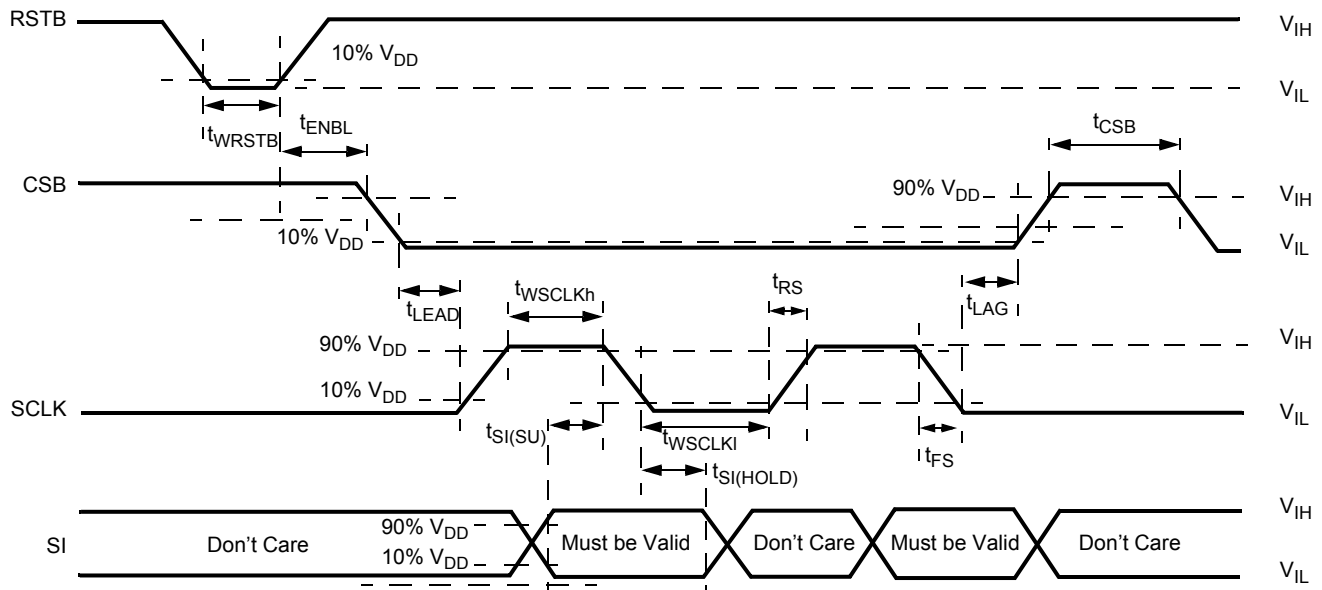
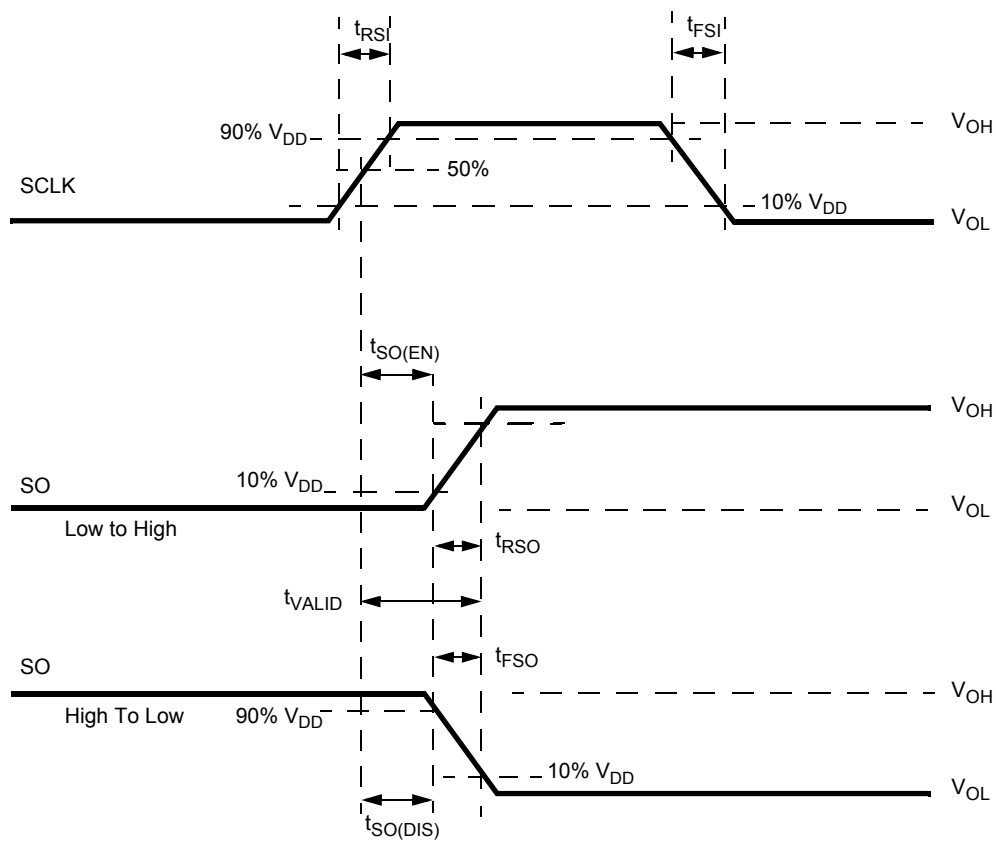

Figure 7. Timing Requirements During SPI Communication
Figure 8. Timing Diagram for Serial Output (SO) Data Communication
edge of CSB. The SO output driver is enabled when CSB is logic [0]. CSB should transition from a logic [1] to a logic [0] state only when SCLK is at logic [0]. CSB is internally pulled up to V_{DD} through I_{UP} . (see Figure 7 and Figure 8).
Serial input (SI) data bits are shifted in at this pin. SI data is read on the falling edge of SCLK. 16-bit data packages are required on the SI pin (see Figure 7), starting with bit D15 (MSB) and ending with D0 (LSB). All the internal device registers are addressed and controlled by a 4-bit address (D9-D12) described in Table 10. Register addresses and function attribution are described in Table 11. The SI pin is internally connected to a pull-down current source, I_{DWN} .